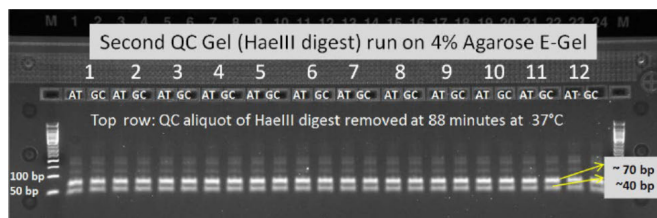

Figure 8 Example of a successful Second QC Gel.
**Note:** After 15 minutes, return to the E-Base™ device to inspect and capture an image of the gel. The HAEIII product sample wells should have a predominant pattern of double bands at 40 bp and 70 bp. These double bands indicate that the 2nd PCR reaction and the HaeIII digestion were successful. (Figure 8.)